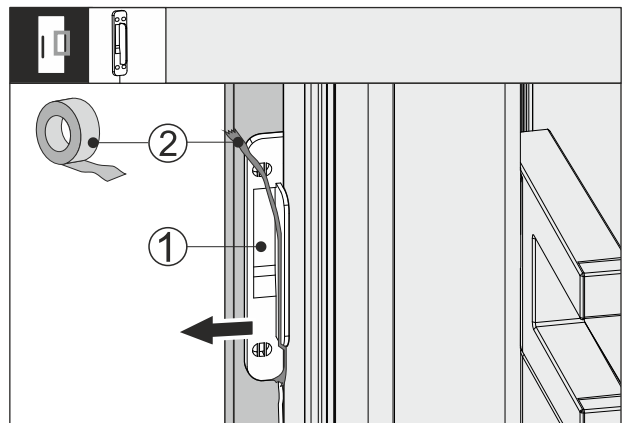

Fig. 64
- ▶ Remove the adhesive tape Fig. 64 (2) from the knocking sensor Fig. 64 (1).